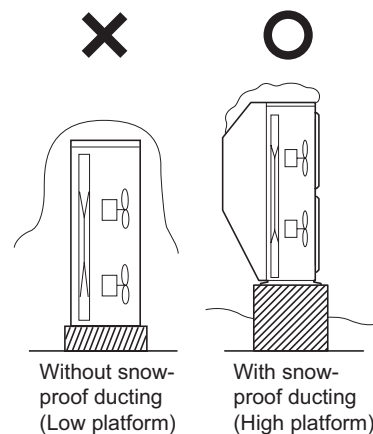

Fig. 1-8
- (1) The platform should be higher than the max. snow depth. (Fig. 1-8)
- (2) The 2 anchoring feet of the outdoor unit should be used for the platform, and the platform should be installed beneath the air intake side of outdoor unit.
- (3) The platform foundation must be firm and the unit must be secured with anchor bolts.
- (4) In case of installation on a roof subject to strong wind, countermeasures must be taken to prevent the unit from being blown over.